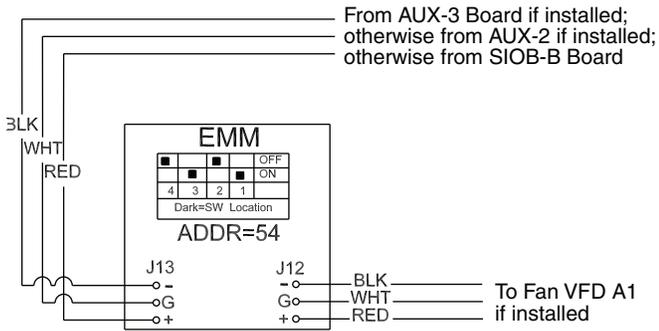

Fig. 3 — 30RC Communication Wiring
6. See Fig. 3. Locate the accessory-supplied wiring harness (30RCHAAAMB-A20) and connect it to EMM board J13. Connect the other end of the harness to AUX-3 board J9 if installed, otherwise connect to AUX-2 board J9 if installed, otherwise connect to SIOB-B board J-12.